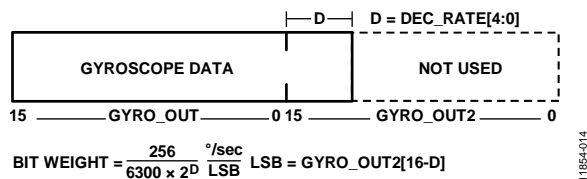
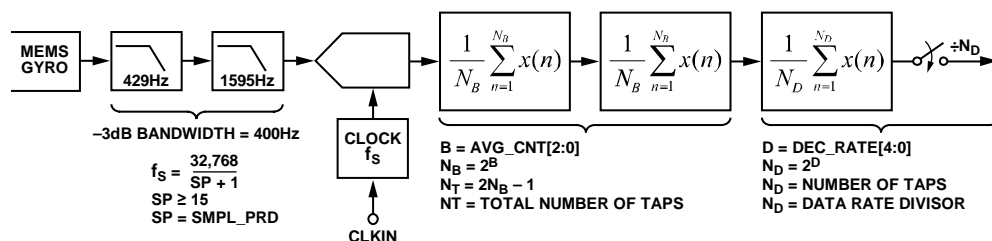

Figure 14. Gyroscope Output Format, DEC_RATE[4:0] > 0
Figure 18. Sampling and Frequency Response Block Diagram
The GYRO_OUT2 register (see Table 11) captures the bit growth associated with the decimation and FIR filters (see Figure 18) using an MSB justified format. The bit growth starts with the MSB (GYRO_OUT2[15]), is equal to the decimation rate setting in DEC_RATE[4:0] (see Table 18), and grows in the LSB direction as the decimation rate increases. See Figure 14 for more details.
Figure 18 provides a block diagram for the sampling and digital filter stages inside of the ADIS16137. Table 15 provides a summary of registers for sample rate and filter control.
[15:0]	Clock setting bits; sets f_s in Figure 18
[2:0]	Binary; B variable in Figure 18; maximum = 110 (6)
The DEC_RATE register (see Table 18) provides user control for the final filter stage (see Figure 18), which averages and decimates the output data. For systems that value lower sample rates, this filter stage provides an opportunity to lower the sample rate while maintaining optimal bias stability performance. The -3 dB bandwidth of this filter stage is approximately one-half of the output data rate. For example, set DEC_RATE[7:0] = 0x04 (DIN = 0xA204) to reduce the sample rate by a factor of 16. When the factory default 2048 SPS sample rate is used, this decimation setting reduces the output data rate to 128 SPS and the sensor bandwidth to approximately 64 Hz.
[4:0]	Binary; D variable in Figure 18; maximum = 10000 (binary) = 16 (decimal)